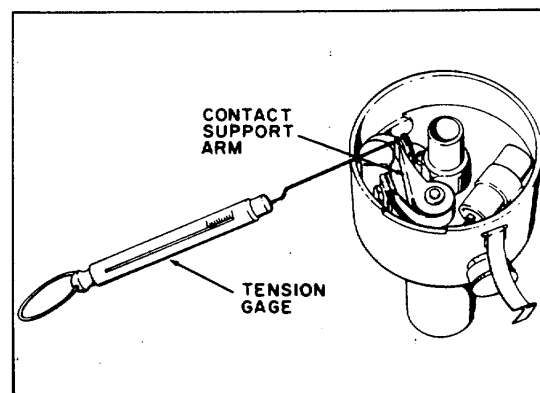

Figure 5-5. Contact Point Pressure Check
b. Contact point pressure check. Contact point pressure must fall within the limits given. Weak tension will cause point chatter and ignition miss at high speed, while excessive tension will cause undue wear of contact points and cam. Check the contact point pressure with a tension gauge calibrated to indicate ounces of pull, as shown in Figure 5-5. The amount of pull required to open the gap must be between 17 to 21 ounces. Replace the contact support arm if it is not within these limits.